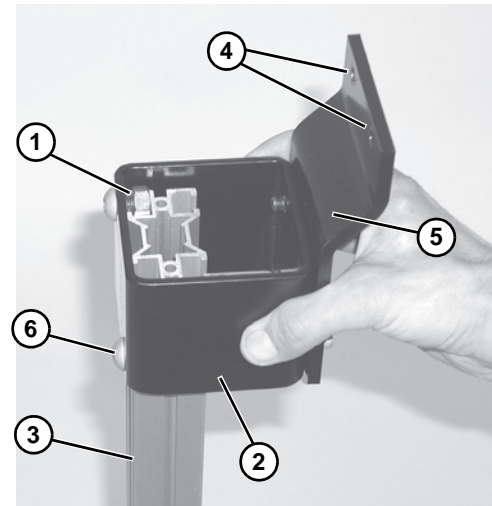

Figure 10
- Align hex nuts (**Figure 10, item 1**) on leg support (**Figure 10, item 2**) to t-slots at top, outside of stand leg (**Figure 10, item 3**). Slide leg support down stand leg until conveyor mounting holes (**Figure 10, item 4**) on pivot bracket (**Figure 10, item 5**) are approximately the same height as the lower t-slots on conveyor. Tighten button head screws (**Figure 10, item 6**) just enough to keep leg support in position.
Failure to secure screws (**Figure 10, item 6**) may cause conveyor sections to drop down causing severe injury.
TIGHTEN SCREWS (Figure 10, item 6) AFTER ADJUSTMENT.
20. Tighten four button head screws (**Figure 10, item 6**) to 17 ft-lb (22.5 N-m).